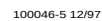

Figure 8-2. Building an ISDN 2B+D Line from a DSX-1 Signal in the NBS (Octet Mode)
To provide ISDN 2B+D service in the octet mode, you must manually provision the cross-connections using the SLC-2000 HDT CIT. Figure 8-2 shows the following process of how the V-DT uses the 24 time slots of its DSX-1 feeder signal to support two *SPQ494* quad ISDN channel units and an *AUA94* dual ISDN channel unit. This combination can produce ten ISDN lines providing 2B+D service:
The time slot representation shown in Figure 8-2 is used to explain the concept of how the system uses the 24 time slots of a DSX-1 signal to build the 2B+D ISDN lines. The actual time slots are assigned by the system and vary according to system requirements. However, the concept for building the 2B+D ISDN lines is the same as described below.
- A “B” data channel equates to a 64-kb/s DS0 signal that can be used for voice connections or equipment connections such as a computer. As shown in Figure 8-2, each “B” channel uses 1 time slot of the 24 time slots in the DSX-1 signal (therefore, “2B” uses 2 time slots). In Figure 8-2, the first ISDN line uses time slots 1 and 2 for its “B” channels.
- A “D” signaling channel equates to a 16-kbs signal that is used to carry signaling and overhead data. As shown in Figure 8-2, each “D” channel uses one-fourth of a time slot. In Figure 8-2, the first ISDN line uses one-fourth of time slot 22 for its “D” channel.
- As shown in Figure 8-2, each *SPQ494* quad ISDN channel unit provides four 2B+D ISDN lines. These four lines use a total of 9 time slots of the 24 time slots in the DSX-1 feeder signal (8 time slots for the 8 “B” channels and 1 time slot for the 4 “D” channels). This allows the V-DT to contain two *SPQ494* channel units using 18 time slots.
- As shown in Figure 8-2, the V-DT can also contain an *AUA94* dual ISDN channel unit. This unit provides two 2B+D ISDN lines using a total of $4\frac{1}{2}$ time slots (four time slots for the four “B” channels and one-half time slot for the two “D” channels).